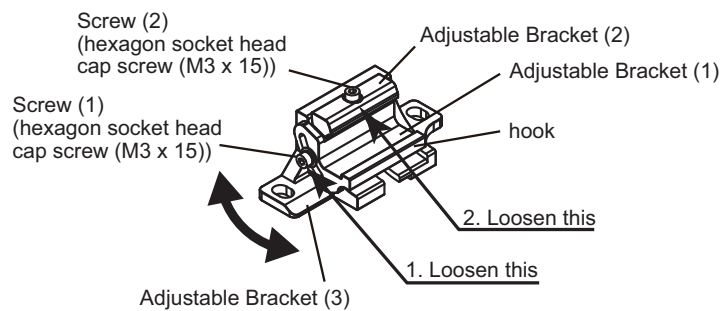

Fig. 1
1. Loosen the Screw (1) (hexagon socket head cap screw (M3 x 15)) and change the angle of the Adjustable Bracket (1) according to its mounting direction. (Fig. 1)
2. Loosen the Screw (2) (hexagon socket head cap screw (M3 x 15)). (Fig. 1)